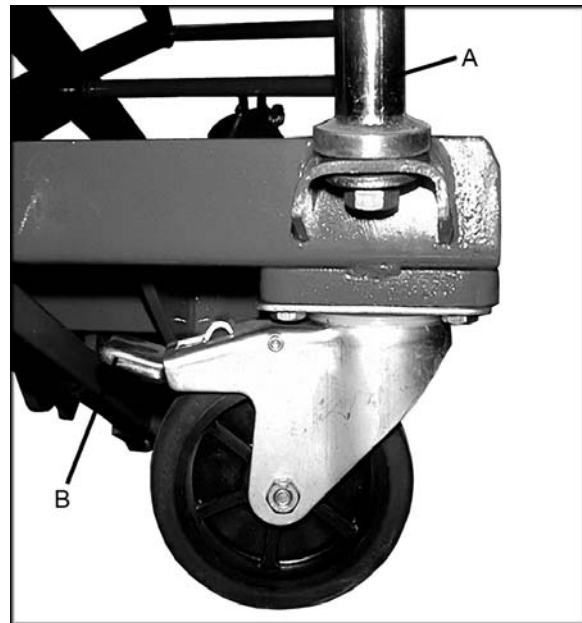

Figure 1
1. Attach the handle (A, Figure 1) to the frame using two hex cap bolts, two lock washers, and two flat washers. Tighten with a 19mm wrench.
**Note:** The two rear casters can be locked so that they do not rotate. Press foot lever (B, Figure 1)